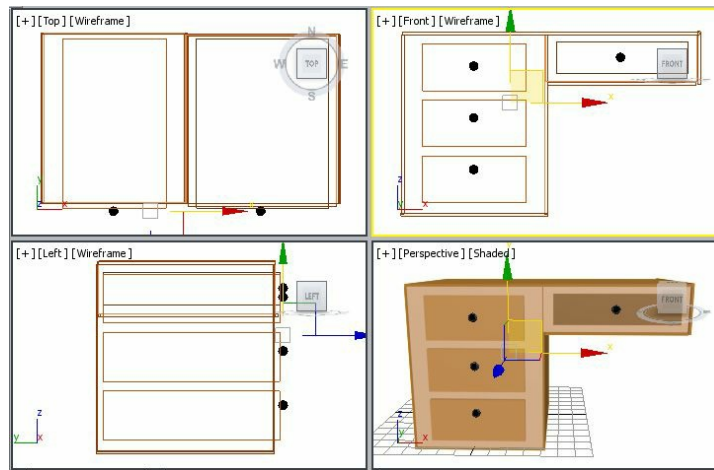

Figure 2-61 Alignment of knobs in viewports
5. Activate the Front viewport and then create three copies of *knob001* by using the **Clone Options** dialog box as described earlier. The newly created copies are automatically named as *knob002*, *knob003*, and *knob004*. Next, align them in viewports, as shown in Figure 2-61.